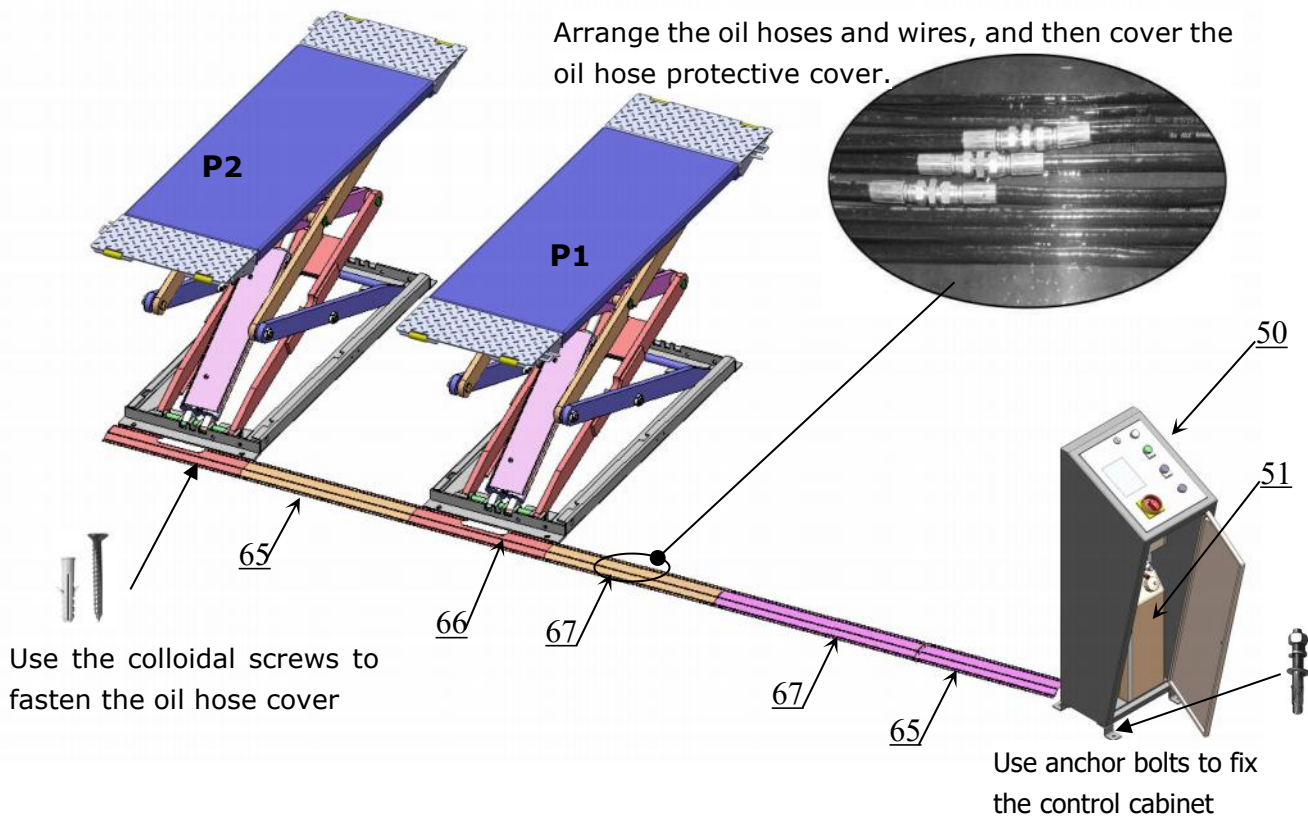
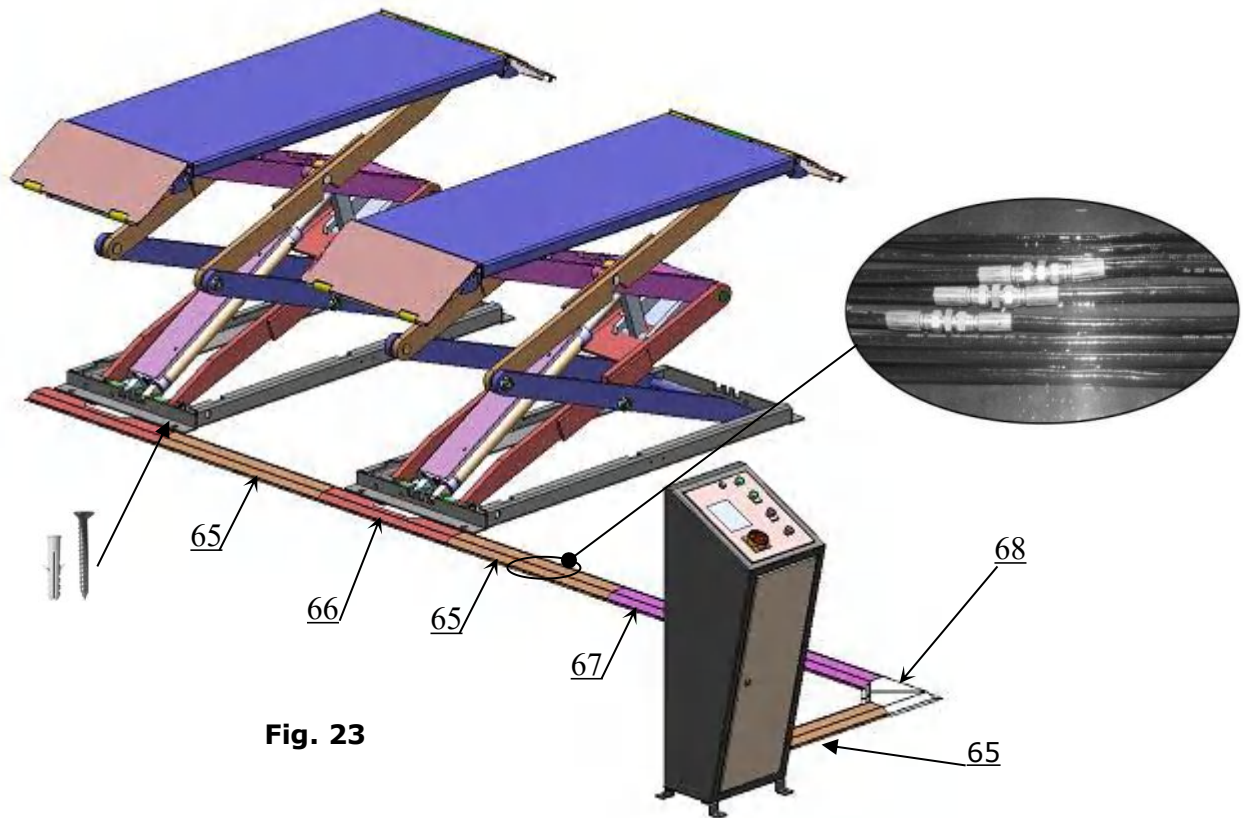

Fig. 22
Fig. 23
1. Arrange the oil hoses and wires, cover the oil hose protective cover and set up the control cabinet. (See Fig. 22, Fig 23)